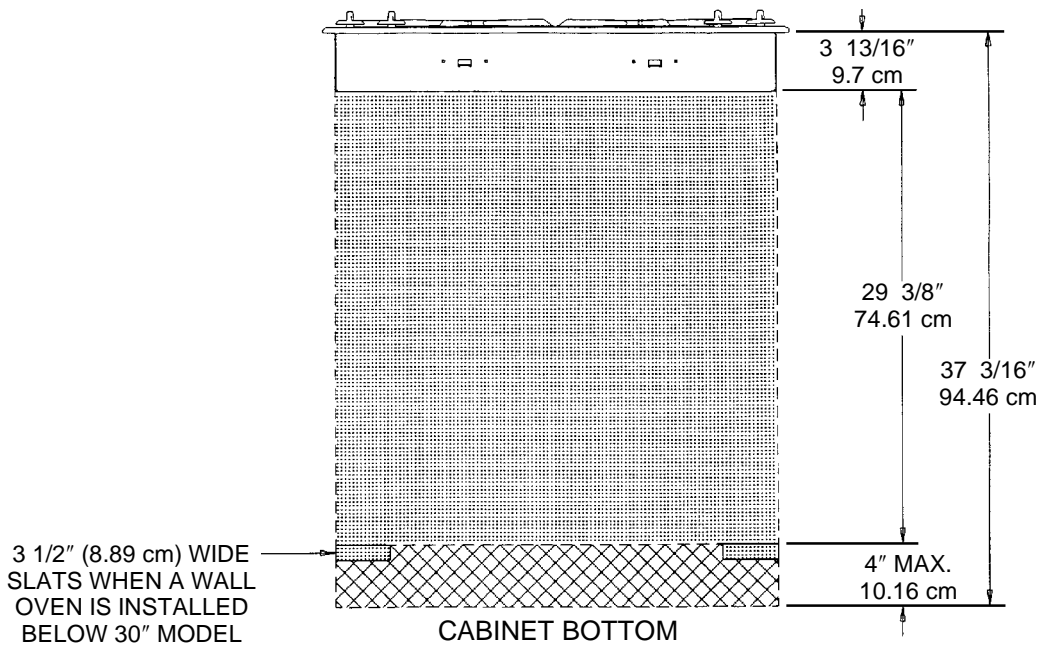

FIGURE 6
**NOTE 1:** This appliance and its gas and electrical supply sources must be installed before the wall oven is installed. See illustration (Electrical Wiring Information - page 7; figure 6) for recommended electrical supply source locations.
This appliance is equipped with a grounded type power cord. A grounded outlet must be provided. It is recommended, for convenience, the outlet be located (with reference to figure 6) as in A or B, below:
- A. If no other appliance is to be installed below this appliance: within either the shaded area or the cross hatched area shown in figure 6.
1. within the cross hatched area of figure 6, or,
If a wall oven is to be installed below this appliance and the counter units outlet is to be mounted within the cross hatched area of figure 6: